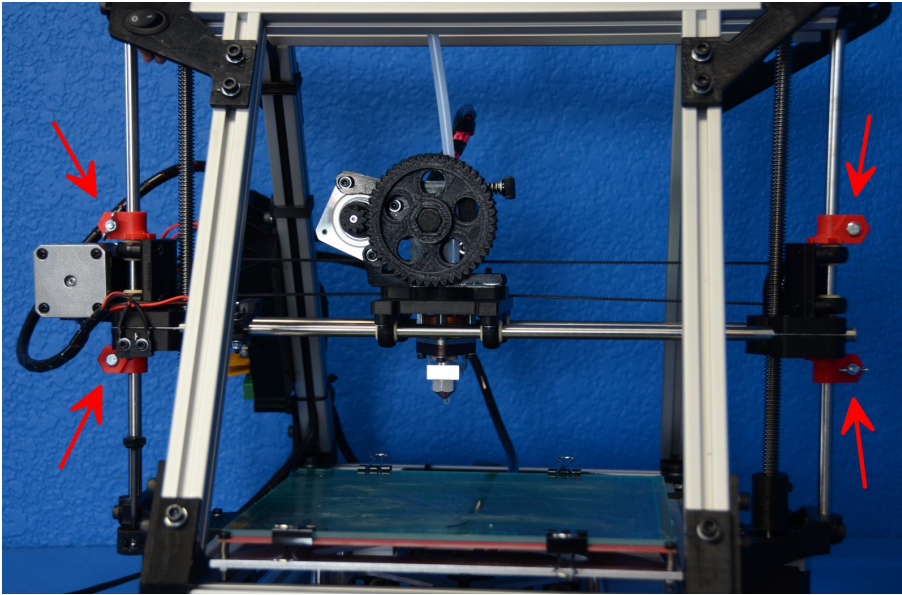

Figure 1.1: Red Shipping Clamps
10. Remove the four red shipping clamps above and below the x-end motor mount and idler (Fig. 1.1, page 12).